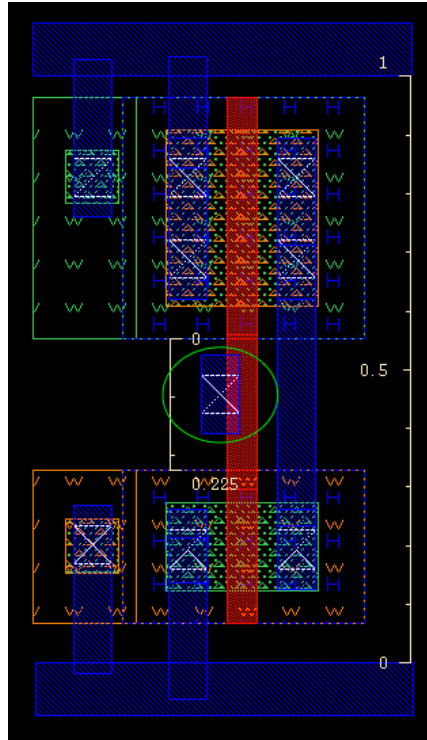
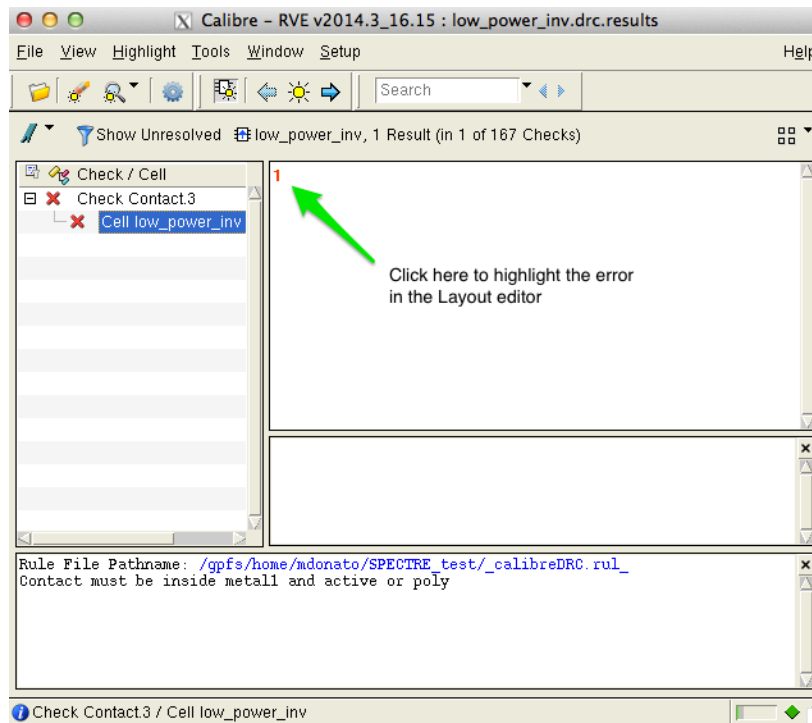

Figure 40 Inverter layout missing poly on metal-poly contact
Figure 41 DRC results window
From Layout L, select **Calibre > Run nmDRC**. This will launch Calibre Interactive directly from Virtuoso. After loading automatically the ruleset file, you can start the check pressing **Run DRC** on the left of the Calibre Interactive window. The results are shown in a new window where a green check mark means no error, while a red x mark means that there is a violation of the design rule. If your design is error free, you can intentionally introduce an error to see how the DRC works. For instance, let's remove the **poly** from the **metal1-poly contact** as in Figure 40. After running the DRC again, the results should look as in Figure 41 (it is helpful to show only the rules unresolved rules by clicking on the filter button ).
The right portion of the Calibre window in Figure 41 will show a list of the errors in the layout (in this case there is only one). By clicking on the error index (1) the Layout Editor will automatically zoom in on the portion of the layout where the error is.